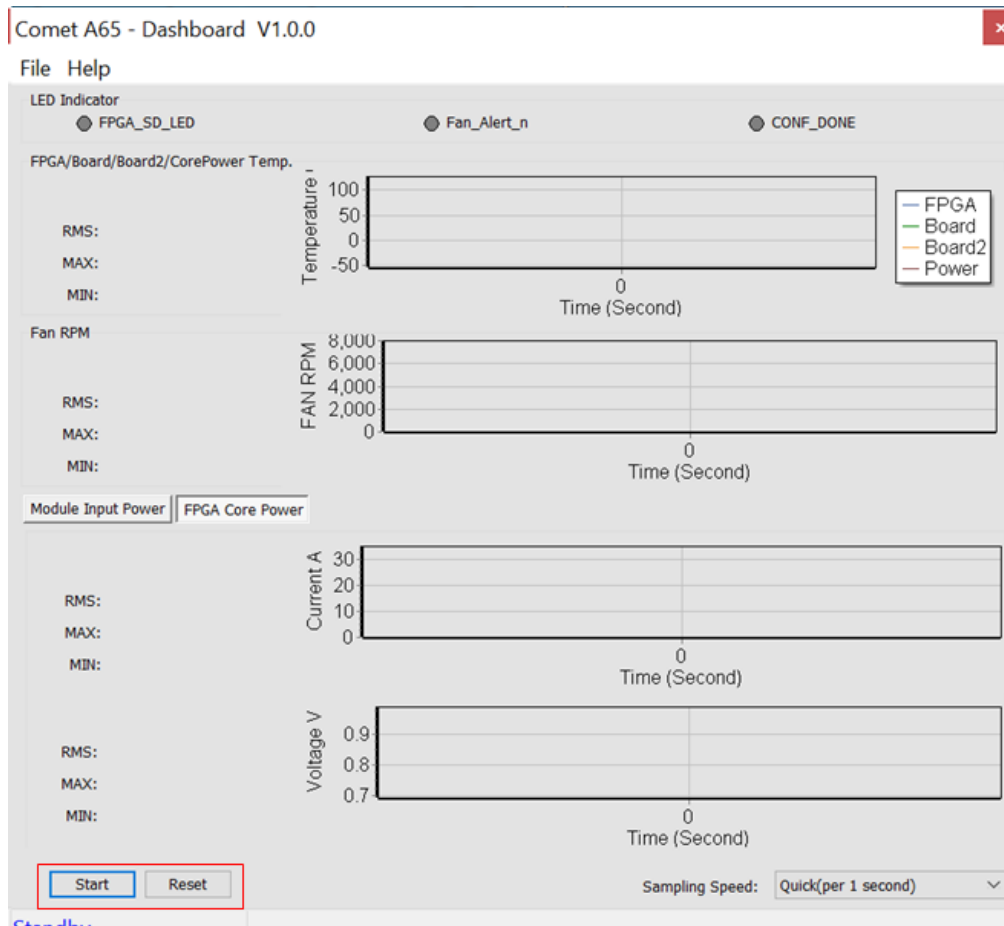

Figure 3-7 Start and Reset button
- **Start/Stop:** As shown in **Figure 3-7**, there is a **Start** button at the bottom-left of the GUI window. Click it to run the program (**Start** will change to **Stop**), it will show the Comet A65 SOM Evaluation Kit status. Users can press **Stop** button to stop the status data transmission and display.